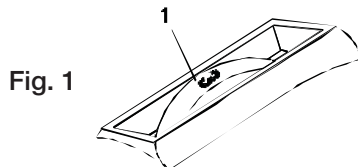

Fig. 1
Set Rotary Tool speed by rotating the variable speed control dial (1) to the appropriate speed (see Fig. 1). Position the speed control dial at “1” for slowest speed, “3” for medium speed and at “MAX” for the highest speed.